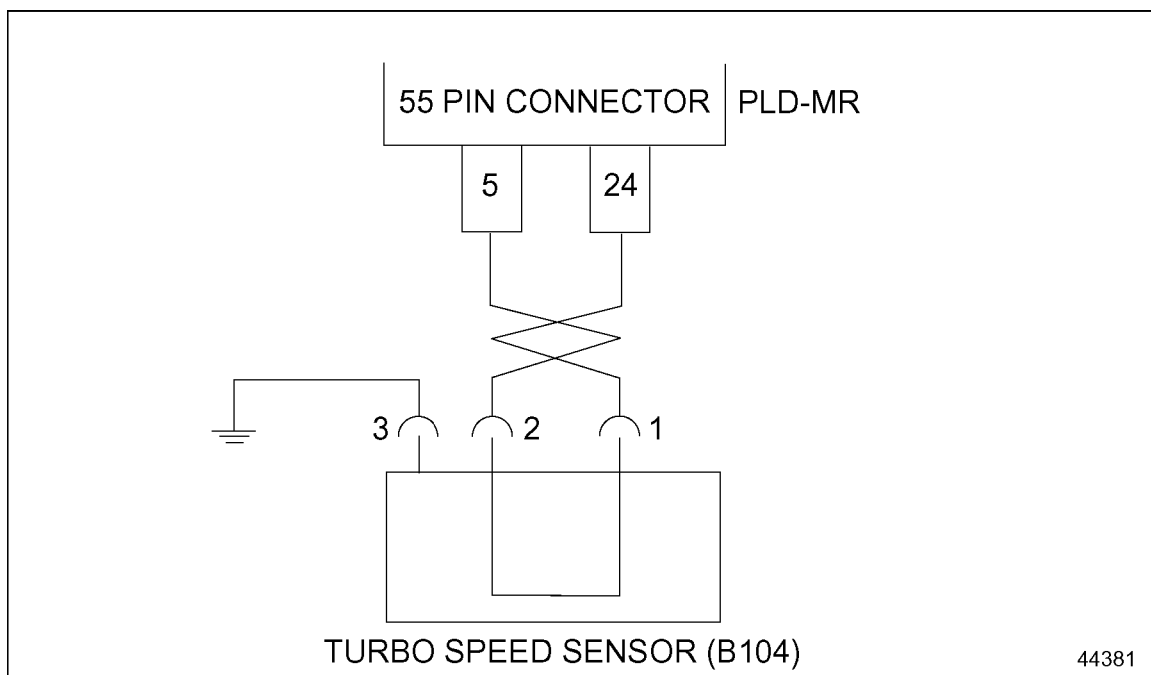

Figure 9-2 Turbo Speed Sensor Terminal and Wire Locations
2. Measure the resistance between the sensor terminals. See Figure 9-2.